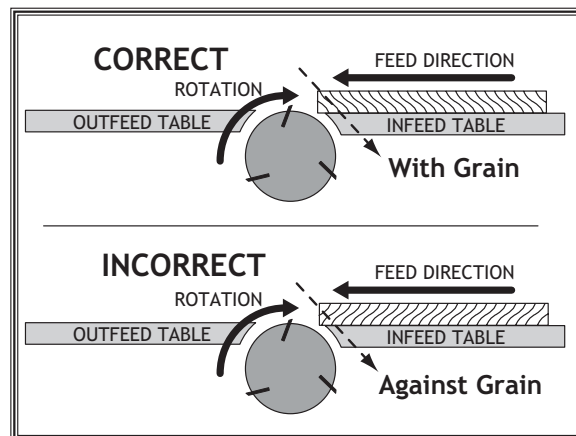

Figure 27. Correct setting for grain alignment.
- **Jointing and surface planing with the grain produces a better finish and is safer for the operator.** Cutting with the grain is described as feeding the stock on the jointer so the grain points down and toward you as viewed on the edge of the stock (Figure 27).